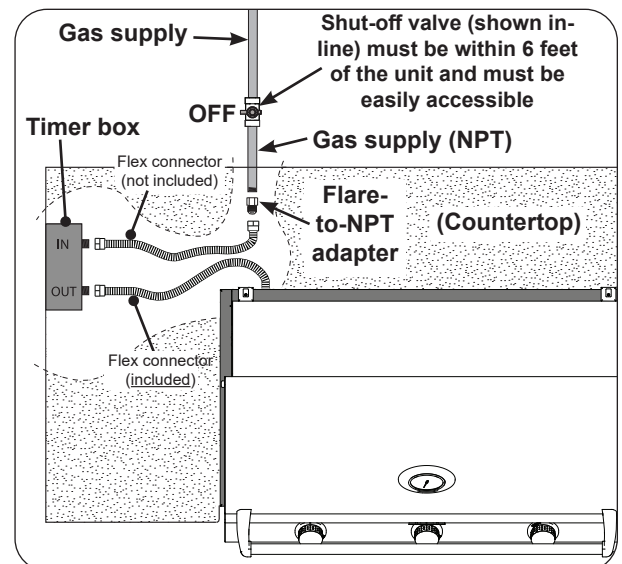

Fig. 23-2 Household LP & Nat. gas diagram
3. Using two wrenches, connect the flex connector coming from the grill to the 1/2" **flare adapter labeled OUT**. See Fig. 23-2. Ensure the connection is tightened securely.
4. **Connect gas source to IN:** Using two wrenches, connect a flex connector (not included) to the 1/2" **flare adapter labeled IN**. See Fig. 23-2. Ensure the connection is tightened securely.
5. Route the flex connector coming from the timer box to the gas supply stub (see Fig. 23-2).